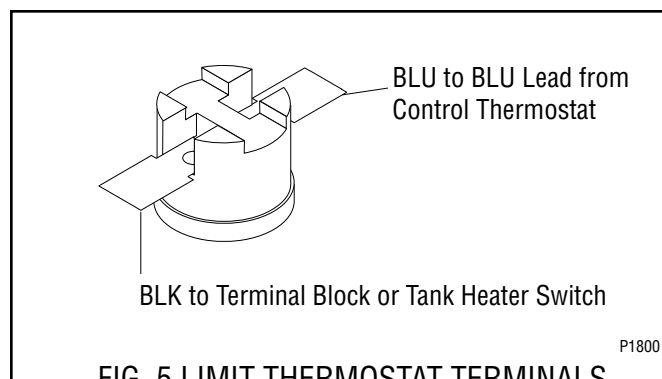

FIG. 5 LIMIT THERMOSTAT TERMINALS
4. Refer to Fig. 5 when reconnecting the wires.